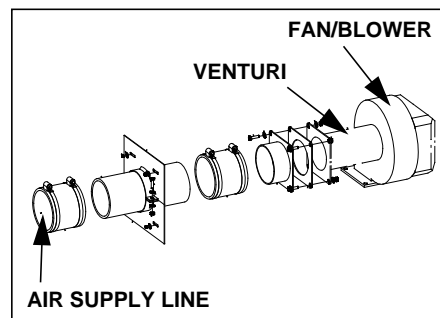

Figure B5-49. Optional Direct Vent Combustion Kit
4. Figure B5-49 shows the optional direct vent combustion kit providing easy adaptation of the contractor supplied air duct to boiler connection. Refer to Table B5-26 for sizing the direct vent combustion air pipe.